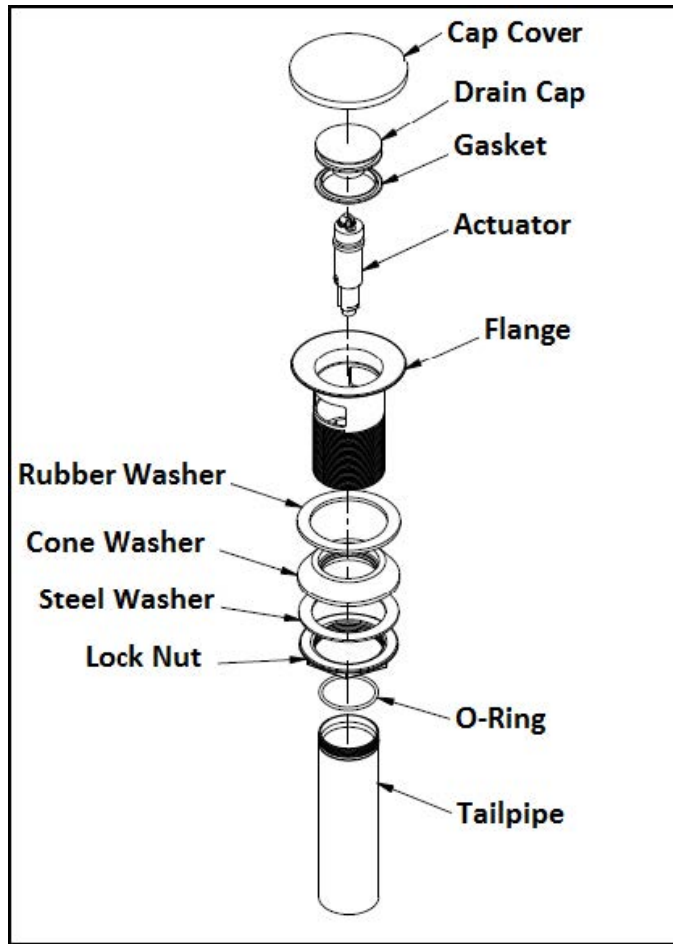

Figure 3
3. Drain assembly not included with 1203-1. Remove FLANGE, RUBBER WASHER, STEEL WASHER, and discard drain CAP COVER from drain assembly. Place RUBBER WASHER into FLANGE. Then, place FLANGE through the sink hole (Clear silicone may be used in place of RUBBER WASHER). From underside of sink, install CONE WASHER, STEEL WASHER, and LOCK NUT into FLANGE. Thread LOCK NUT firmly. Thread TAILPIPE to FLANGE assembly and assemble TAILPIPE to existing P-Trap. **See Figure 3.**